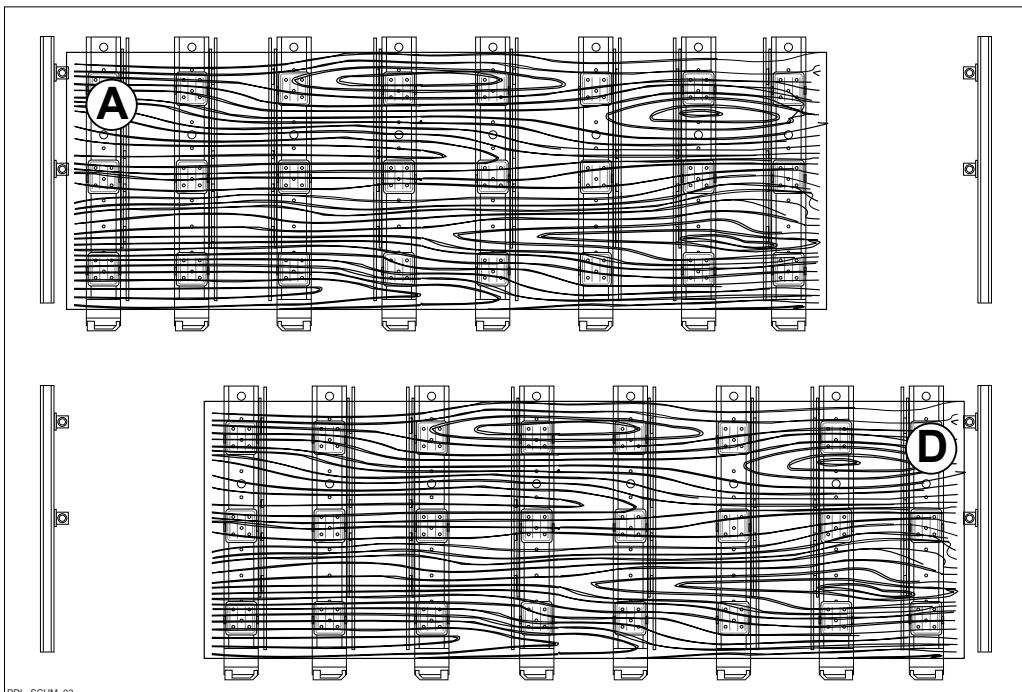

Fig. 3.8f
2) exclusion of the centre double zero reference to better use the work area (fig. 3.8f)